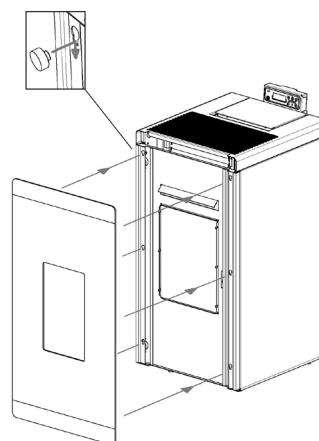

Fig. 41 - Position the glass
- Position the glass on the metal door: hook the screws' heads on the door's holes (see **Fig. 41**).